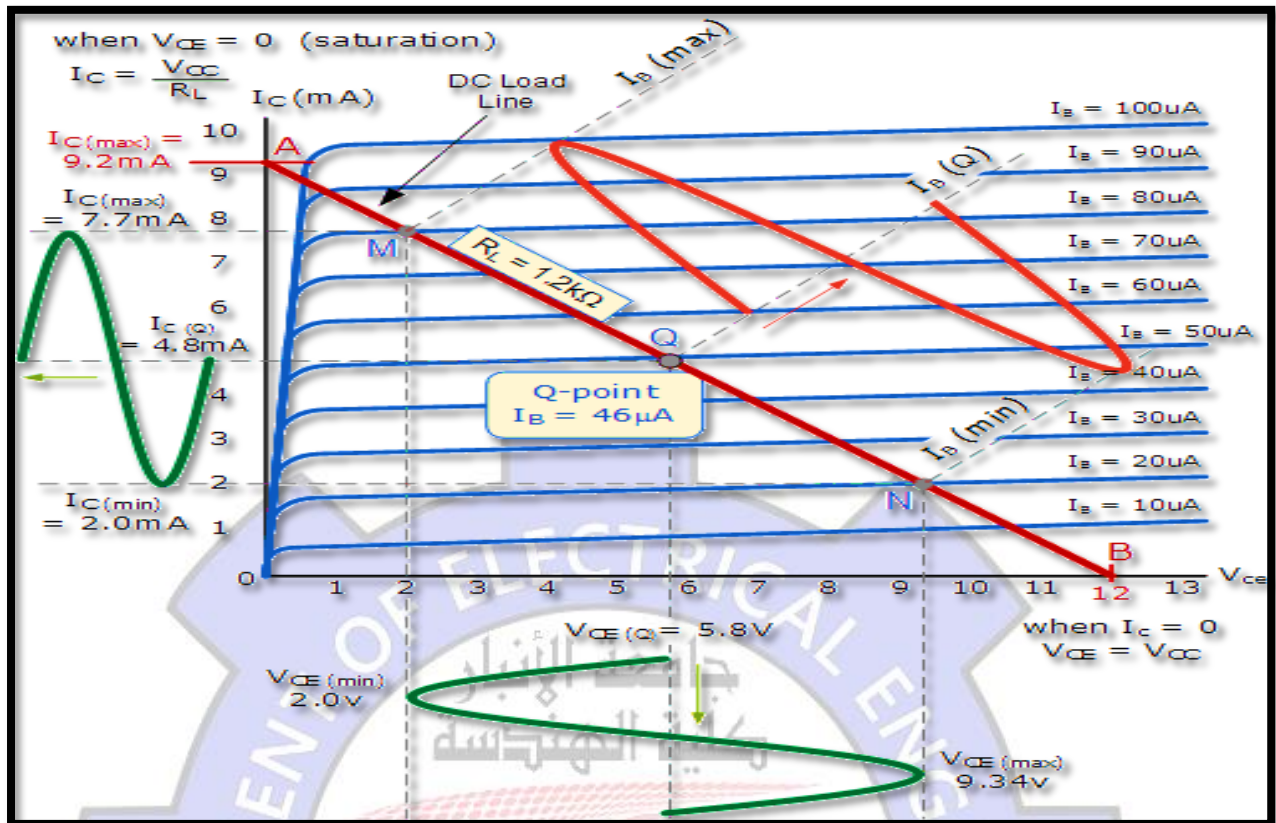

Fig.2: Drawing the load line for the transistor amplifier (an example)
Measure V_{CE} and the voltage drop across R_5 . This last figure should be very low, meaning that only a negligible current flow in the cut-off point on the graph of Fig.2, representing the transistor characteristics.
- Move P_1 to achieve saturation. Measure V_{CE} , then drop across R_5 and from this calculate the saturation current. Mark this second point on the graph of Fig.2 (saturation point).
- Draw by a straight line the two points marked on Fig.2. this is the static load line for the transistor amplifier.
Measure V_{CE} again and the voltage drop on R_5 , calculate I_C . Plot this new point on the same graph of Fig.2. the point should lie on the line previously drawn.